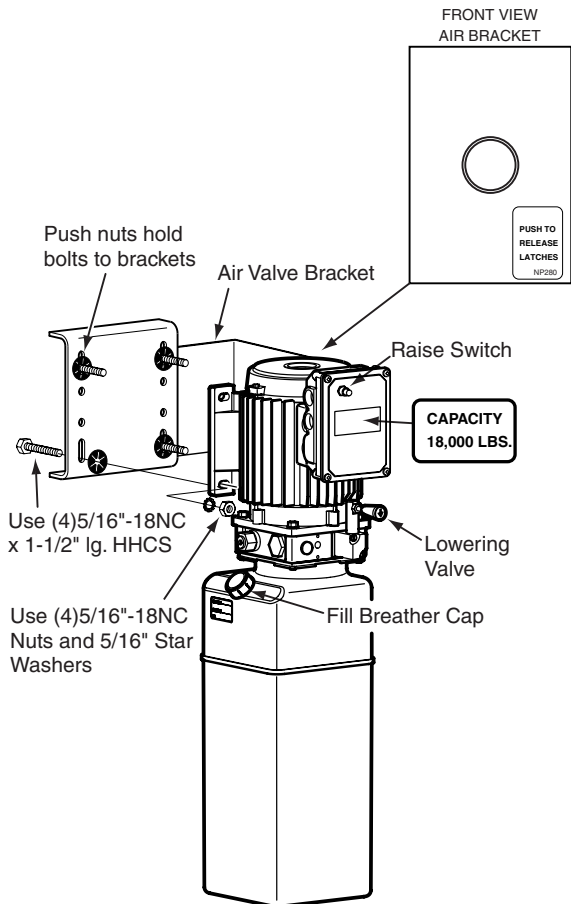

Fig. 17 MOUNTING AIR VALVE BRACKET
- A. Align Latch Release Air Valve Bracket with holes in right side of Column Bracket. Put four 5/16" x 1 1/2" hex bolts through holes in Air Valve Bracket and Column Bracket, using push nuts to hold in place, Fig. 17.
D. Attach enclosed NP280 decal (ACTUATE TO RELEASE LATCHES) below button on air valve bracket, Fig. 17. Run 1/4" air line from air valve to the slot in the fixed runway. Cut airline and attach a Tee, Fig. 25.